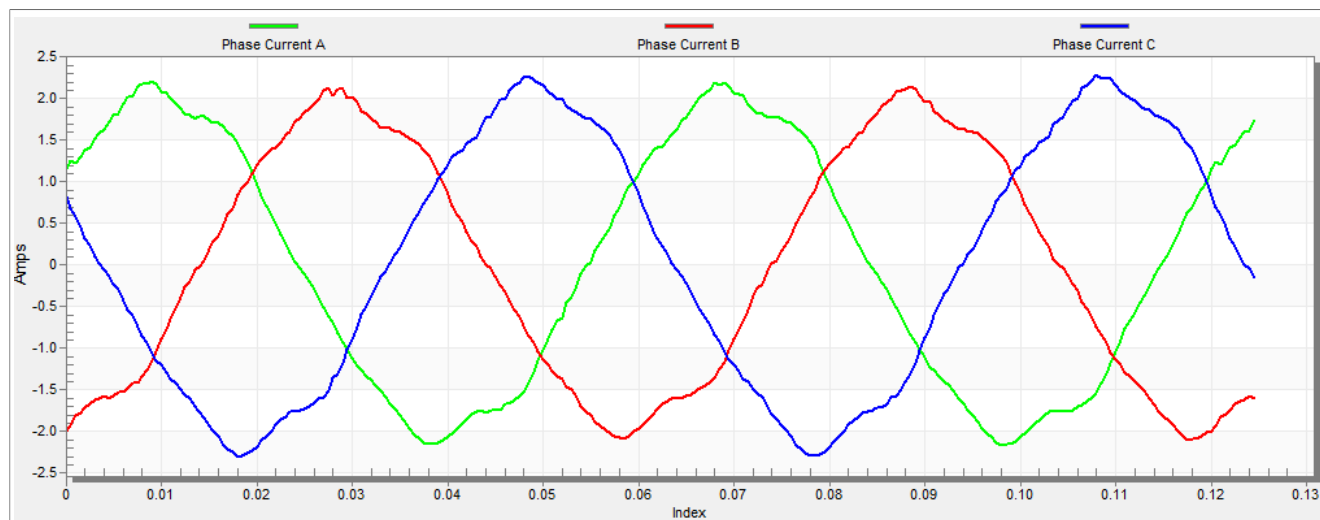

Figure 28. Phase currents
5. The optimal ratio for the V/Hz profile can be found by changing the V/Hz factor directly using MCAT input "Scalar V/Hz factor ratio". The shape of the motor currents should be close to a sinusoidal shape (Figure 28).